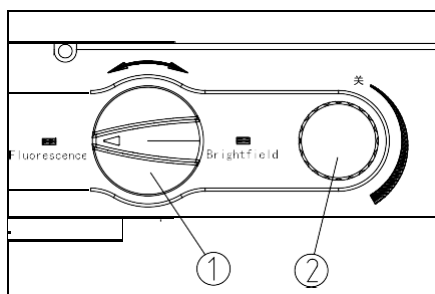

Fig. 30
(7) The LED fluorescence filter block adjustment knob ① can be rotated for 180° according to the arrowhead direction, to change between transmission brightfield and LED fluorescence. Fluorescence means fluorescence observation, and Brightfield means brightfield observation. (See Fig. 30)
(8) Illumination: Rotate the adjustment knob ② in clockwise, it will sound a “Dida” when the LED fluorescence lamp is turned on, and increase the brightness in clockwise; Rotate the adjustment knob ② in counterclockwise to reduce the brightness of the LED fluorescence lamp, and turn it off until it sounds a “Dida”. (See Fig. 30)